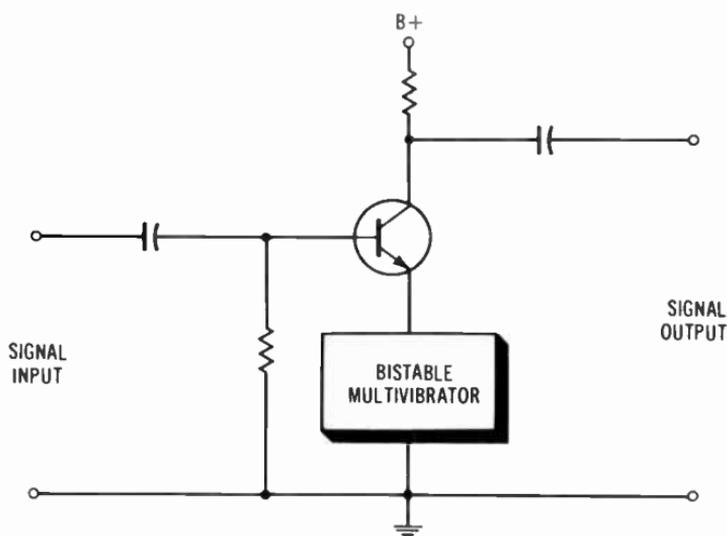

Fig. 7-13. A simple switching circuit.
The illustration in Fig. 7-13 shows an electronic switch that can be turned on or off by a single pulse. The input signal will be amplified only when the electronic switch is closed.
Q7-22. In Fig. 7-13, switching action depends on changing the voltage of the _____.
- A7-22.** In Fig. 7-13, switching action depends on changing the voltage of the emitter.